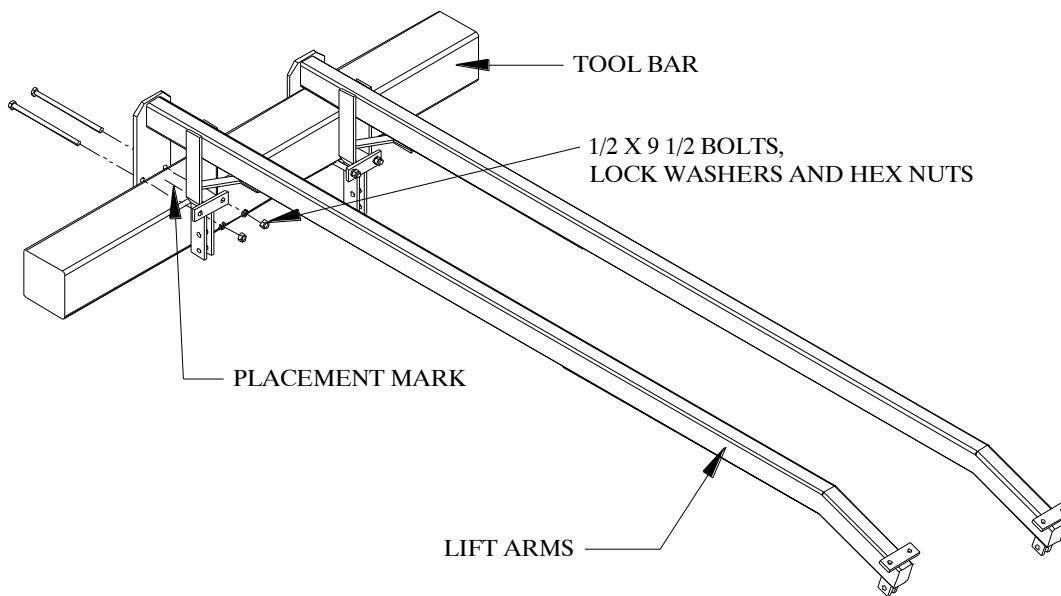

Figure 10
2. Center a lift arm on each of these marks and secure using two ½" x 9 ½" bolts, lock washers, and hex nuts for each lift arm. Refer to Figure 10.